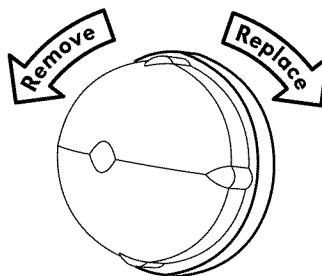
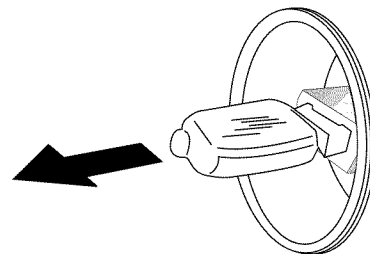

Figure 3 - Glass shield removal
Figure 4 - Pull bulb out.
2. The bulb is covered with a glass shield screwed in place (fig. 3). Replace bulb with 25-watt halogen appliance bulb only (fig. 4). **Please note: do not allow your fingers to touch the new bulb when replacing. This will shorten the life of the new bulb. Use a paper towel to cover the new bulb when installing.**
3. Replace the glass shield (fig.3). **The glass shield must be in place whenever the oven is in use.**